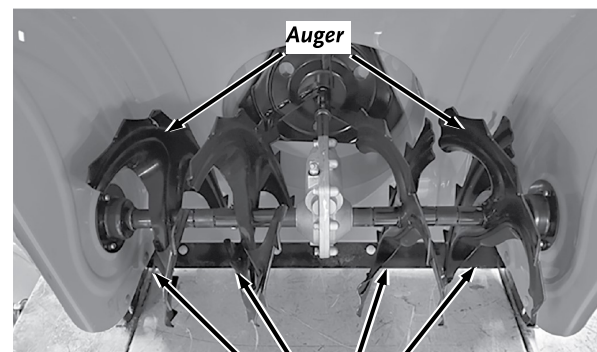

Figure 38
1. Remove the Cotter Pin securing each Auger Shear Pin (**Figure 38**).